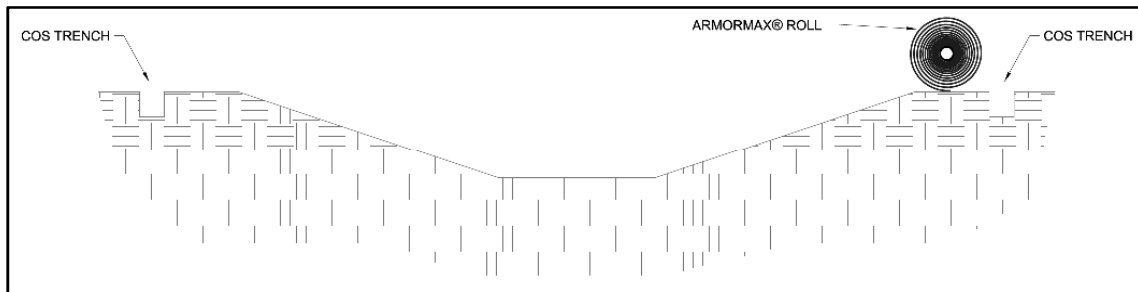

Figure 8: Crest of Slope (COS) Trench Alignment
7. Place the next ARMORMAX panel by laying the ARMORMAX roll so that the roll end points towards the COS trench (Figure 8), with a 3 inch (75 mm) overlap created at adjacent panel edge locations. Ensure that adjacent panel edges maintain a minimum 3 inch (75 mm) overlap during ARMORMAX LAYDOWN (Figure 12).